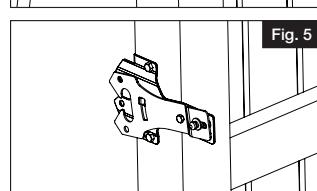

Fig. 5
- b. Install latch to post with provided screws and tighten (Fig. 5).